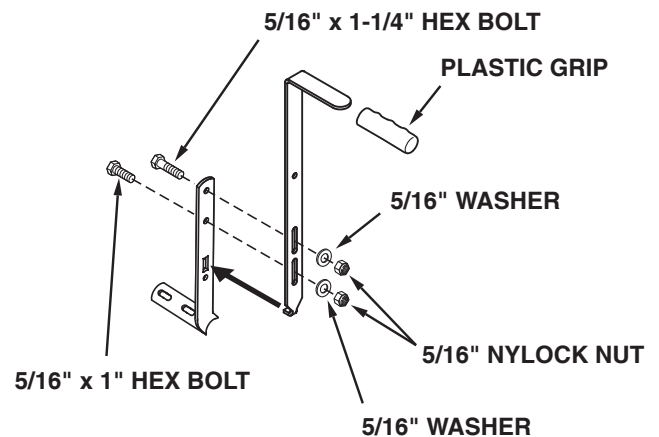

FIGURE 7
- Assemble the plastic grip onto the upper height adjust handle. See figure 7.
- Fasten the upper and lower height adjust handles together as shown in figure 7. Use one 5/16" x 1" hex bolt, one 5/16" x 1-1/4" hex bolt, two 5/16" washers and two 5/16" nylock nuts. Place the washers against the slots in the upper handle. Tighten the nuts and then loosen 1/2 turn so that the handles slide easily. See figure 7.